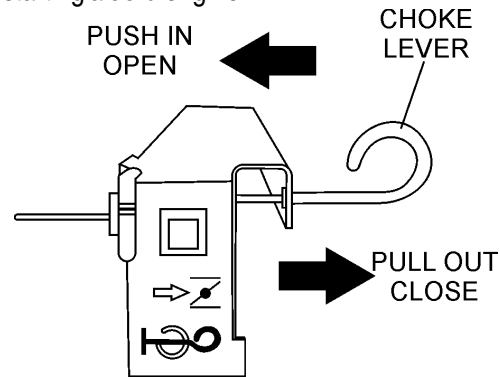

Figure 13. Choke Lever
2. Place the **choke lever** (Figure 13) in the "CLOSED" position if starting a **cold engine**.
3. Place the **choke lever** (Figure 13) in the "OPEN" position if starting a **warm engine** or the **temperature is warm**.
- If the engine has started, slowly return the choke lever (Figure 13) to the **"OPEN"** position. If the engine has not started repeat steps 1 through 5.